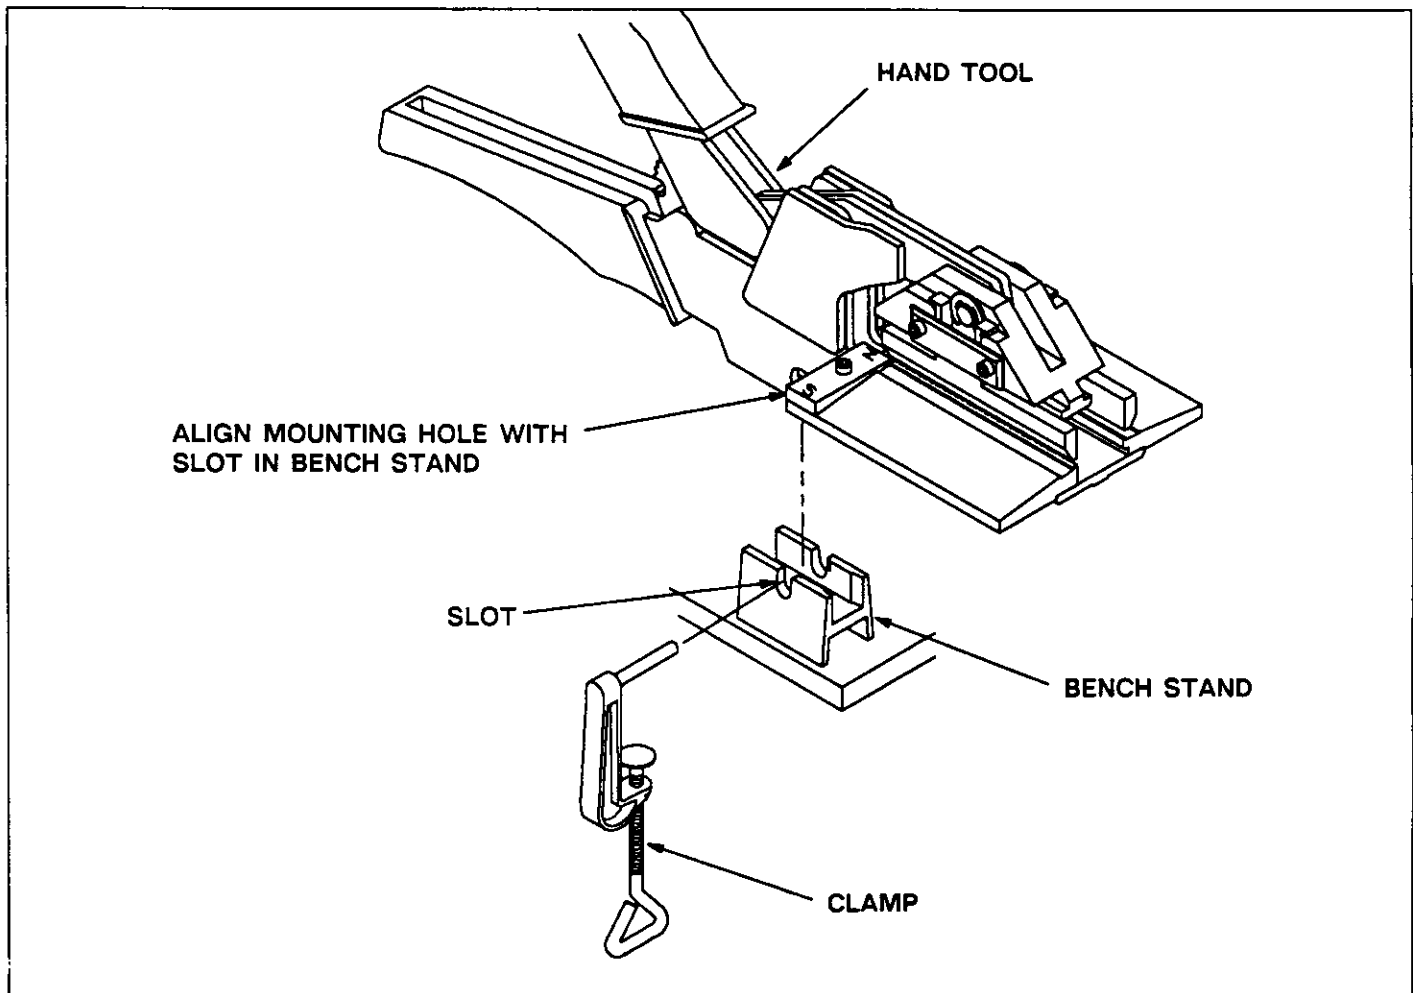

Fig. 2
2. Place the bench stand at the end of the bench. (See Figure 2).